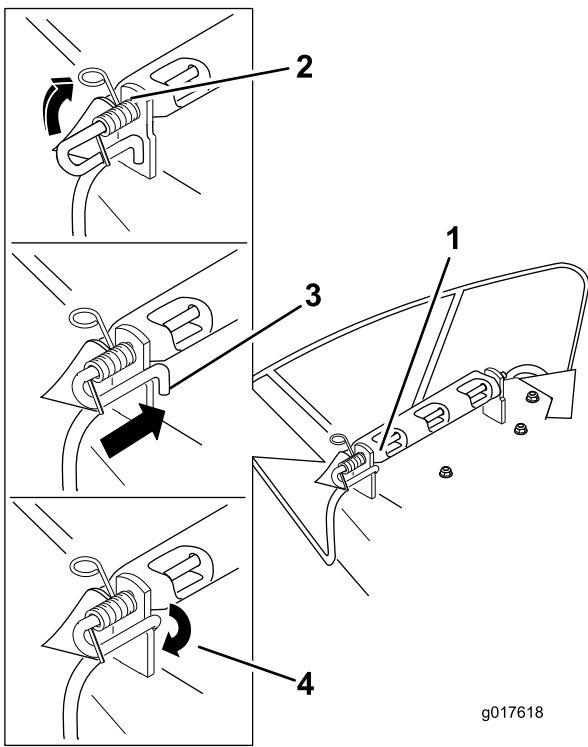

Figure 73
3. Position the new discharge deflector with the bracket ends between the welded brackets on the deck as shown in Figure 73.
6. Lift the loop end of the spring and place it into the notch on the deflector bracket (Figure 73).
7. Secure the rod and spring assembly by twisting it so the short end of the rod is placed behind the front bracket welded to the deck (Figure 73).